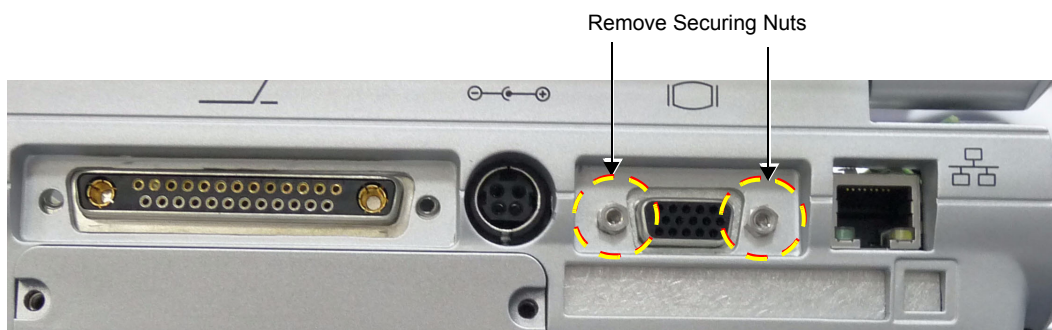

Figure 8-52 Vivid-i™/ Vivid-q™ Scanner - Rear View
- 5.) Loosen and remove the two securing nuts (one on each side of the VGA Connector, located on the Vivid-i™/ Vivid-q™ rear panel), as shown Figure 8-52.
- 4.) Return and fasten the two securing nuts previously removed (one on each side of the VGA Connector, located on the Vivid-i™/ Vivid-q™ rear panel), as shown Figure 8-52.